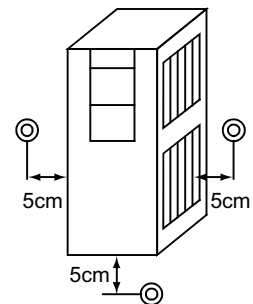

Fig.6.1 Measurement of ambient temperature
- 1) Measure the temperature at the positions indicated in Fig.6.1.